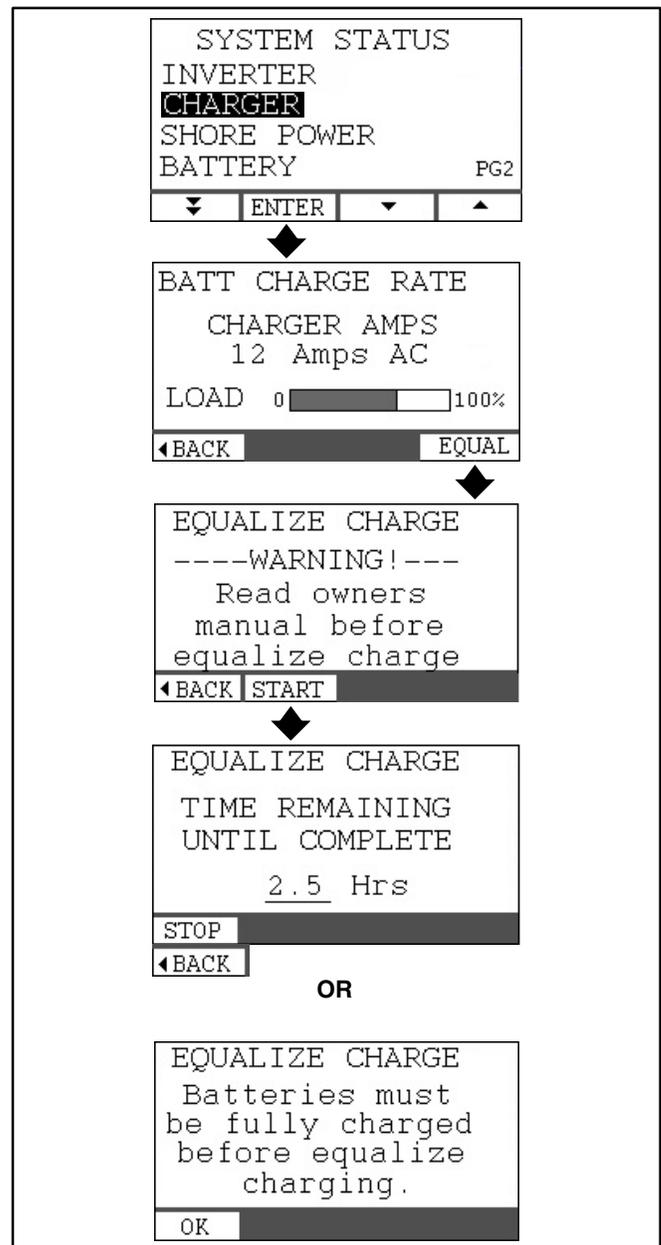

FIGURE 4-10. EQUALIZE CHARGE
**Note:** Equalize charging is enabled only when the Inverter-Charger is configured for Wet Cell batteries. If the Inverter-Charger is configured for any other type of battery, EQUAL will not appear on the BATT CHARGE RATE screen (Figure 4-10).
*It can take up to 6 hours to equalize charge.* Batteries must be attended while equalizing. Someone who has read and understood EQUALIZE CHARGING (Pages 5-2 and 5-3) must be present to press STOP on the EQUALIZE CHARGE screen (Figure 4-10) if a battery overheats or a cell overflows, splits or cracks.
Go to BATT CHARGE RATE (Figure 4-10) to get to the EQUALIZE CHARGE screen. Press EQUAL. Heed the WARNING on the screen by reviewing Pages 5-2 and 5-3 and then press **START**.